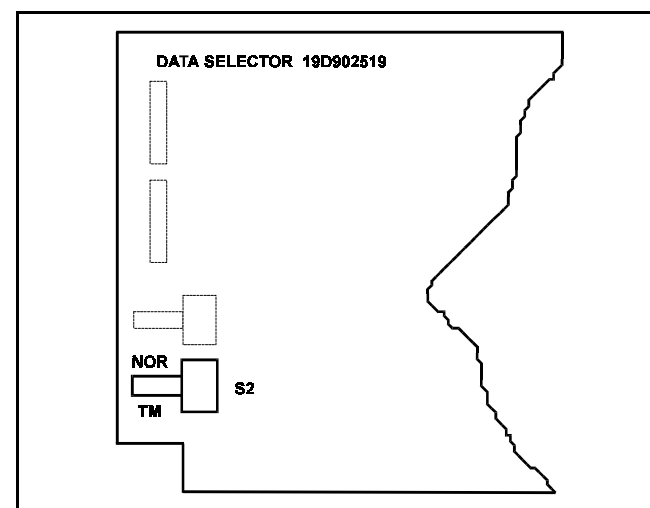

Figure 1 - Data Selector Module, S2 Location
1. Set test enable switch S2 on the 150 baud digital selector board to the TM (test mode) position and verify that the red "test" LED DS1 is ON. See Figure 1.
2. Set test enable switch S2 on the 150 baud data selector board to the TM (test mode) position and verify that the red "test" LED DS1 is ON. See Figure 1.